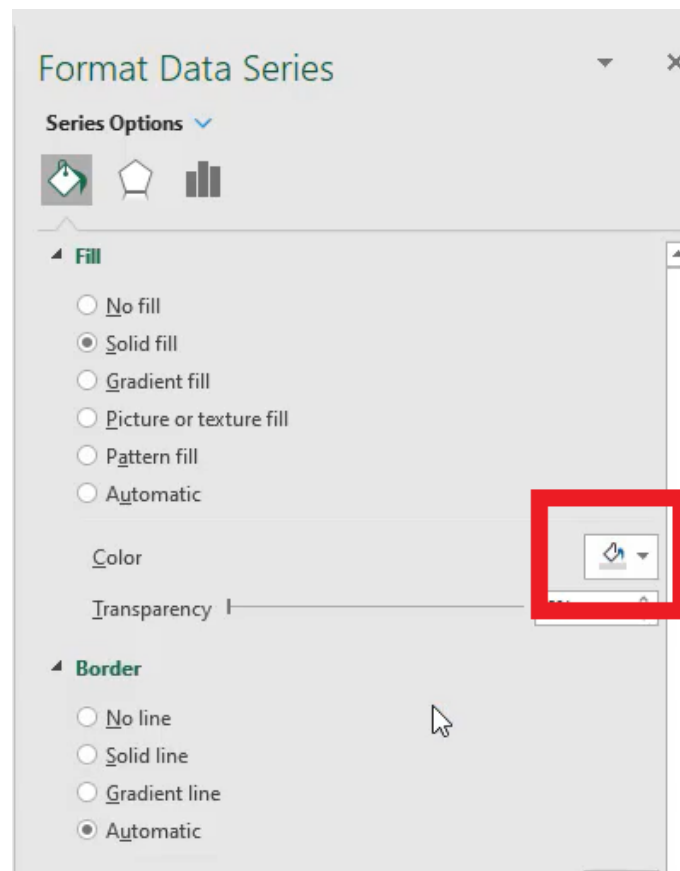

Figure 37.19
4. Change the color to light gray to ensure this information adds to the current data without overwhelming the chart. (See **Figure 37.19**)